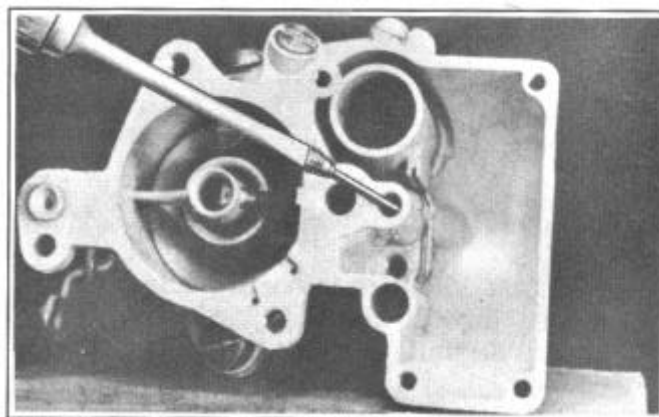

FIGURE 13
6. Remove the low speed jet assembly, Figure 13.